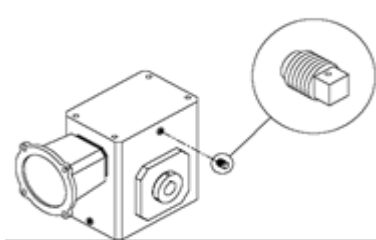

FIGURE 2.1
- Check for REDUCER VENT PLUG and **INSTALL** if necessary (see *Figure 2.1*). To install, remove the solid plug and replace with vent plug.